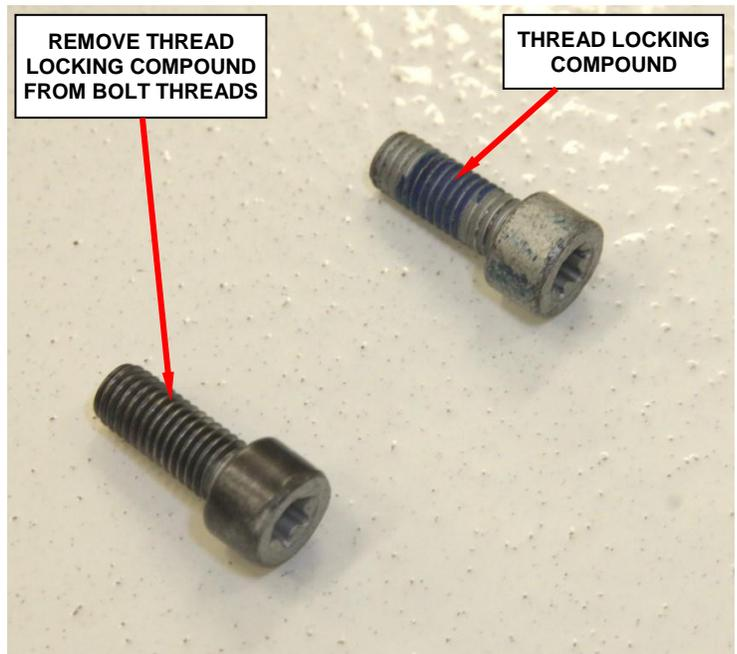

Figure 14 – M10 Installation Tool
18. Fabricate an installation bolt from an M10 – 1.5 x 25mm bolt (P/N 06508295AA) by removing the blue thread locking compound from the bolt threads (Figure 14).